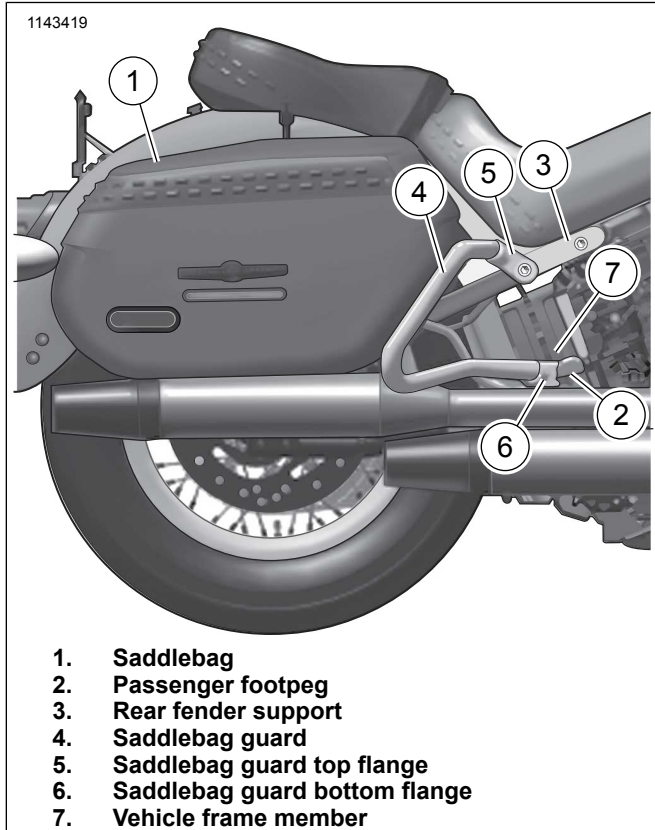

Figure 2. Rear saddlebag Guard Installed-Right Side
4. See Figure 2. Position saddlebag guard top flange (5) with Original Equipment (OE) washer (2) removed earlier between the flange and rear fender support (3).
6. See Figure 2. Position bottom flange (6) of saddlebag guard (4) against vehicle frame (7) at location where passenger footpeg (2) (or passenger footboard bolt) attaches.